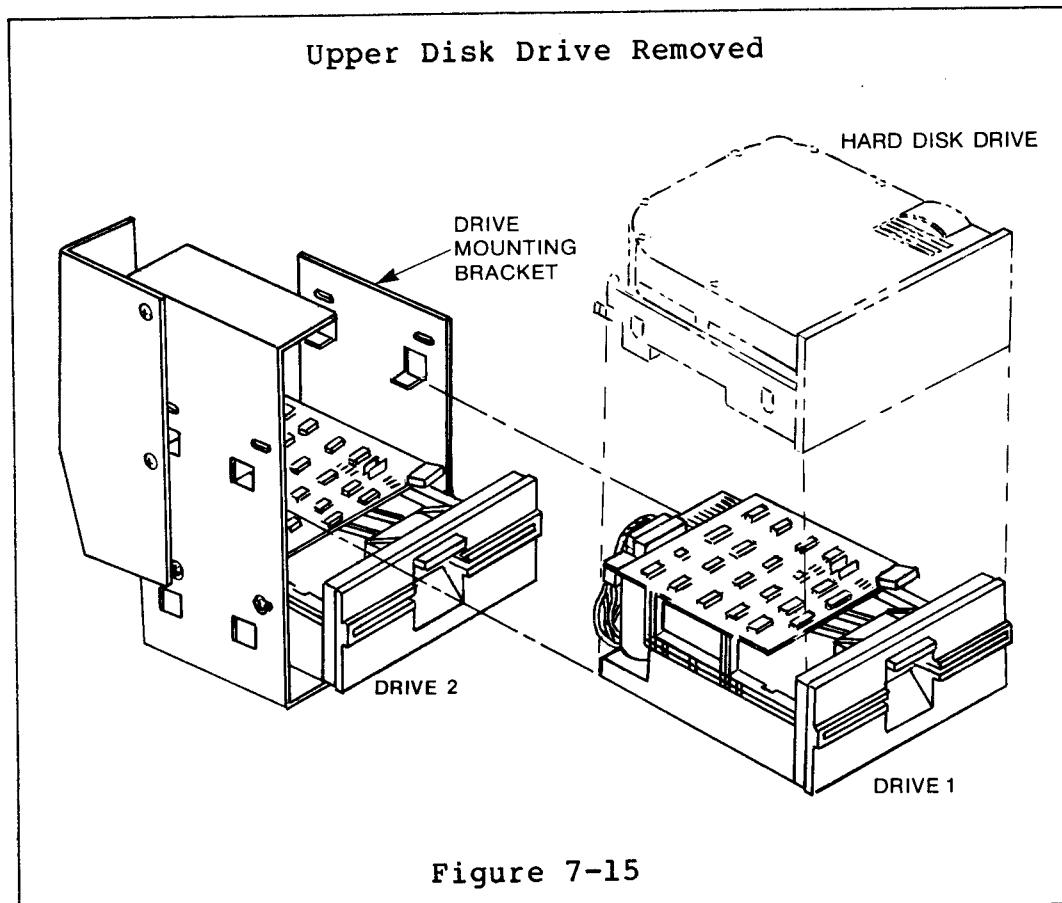

Figure 7-15
- 6) Remove the upper drive by sliding it forward as shown in Figure 7-15.